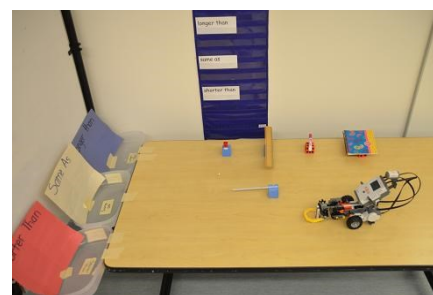

Figure 1
- Tapes the bins and matching labels in 3 distinct areas hanging off the table See Figure 1